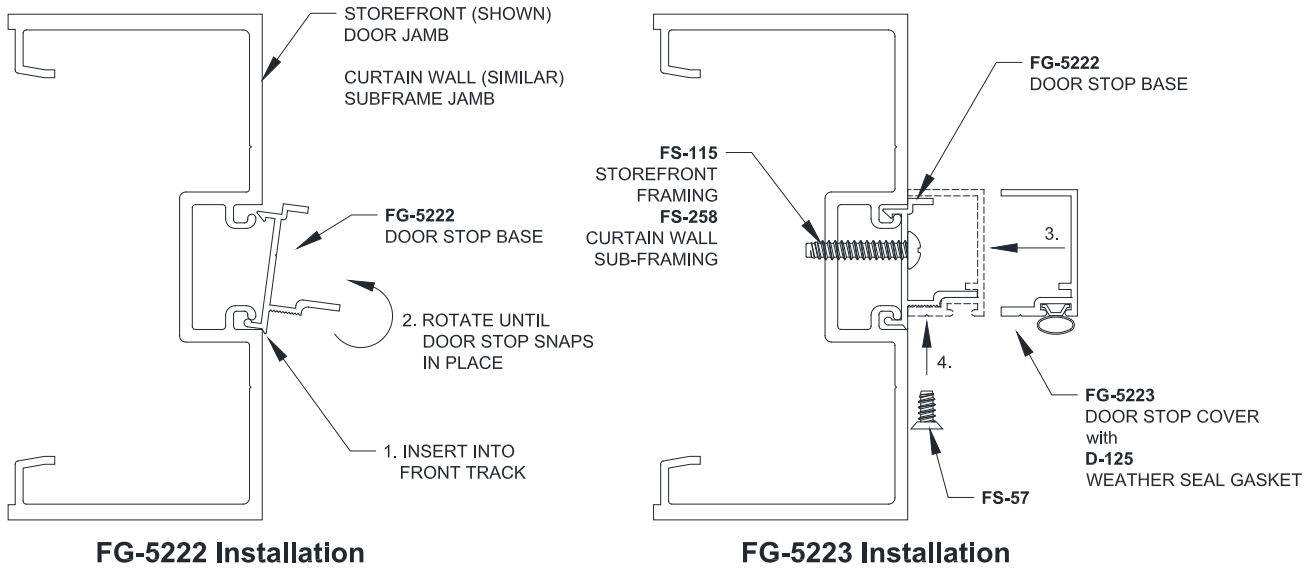

Figure 28: Attaching Two-Piece Door Stop to Door Jamb
- 10.2.1 To install the **FG-5222** Door Stop Base, insert the front leg into the front snap track and rotate Door Stop Base into the back snap. See Figure 28 for visual.